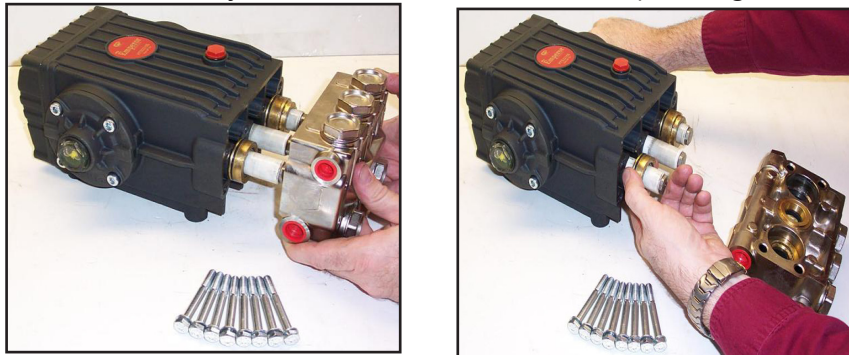

Figure 5-7. Seal Assemblies May Come Off with Manifold
12. The seal assemblies may come off with the manifold (see Figure 5-7)